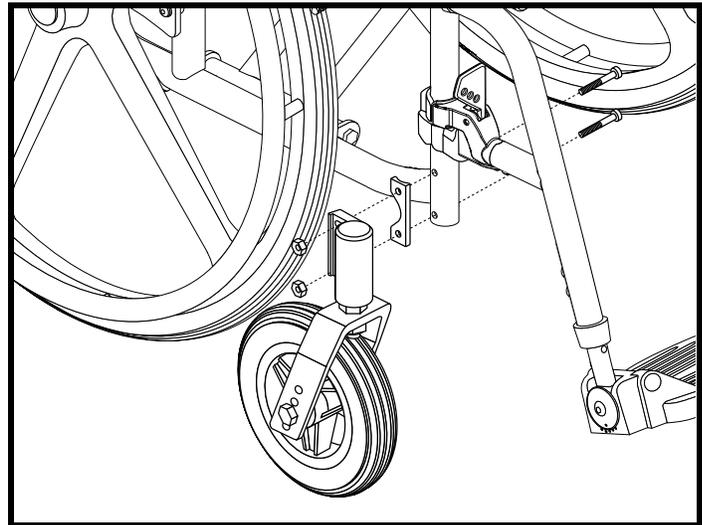

Figure 40. Bolt-on Caster Removal
1. Remove the hardware that attaches the caster wheel to the frame of your wheelchair. See figure 40.